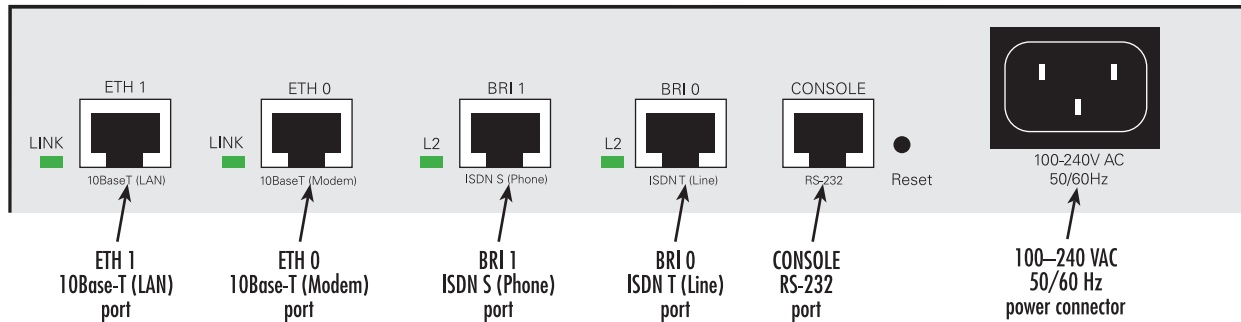

Figure 38. SmartNode 1200 connectors
1. Installing the 10Base-T Ethernet cable into ports *ETH 0* and *ETH 1* (see figure 38) (see “Installing the Ethernet cables” on page 73).
1. Insert the barrel type connector end of the AC power cord into the 100–240 VAC power connector (see figure 38).